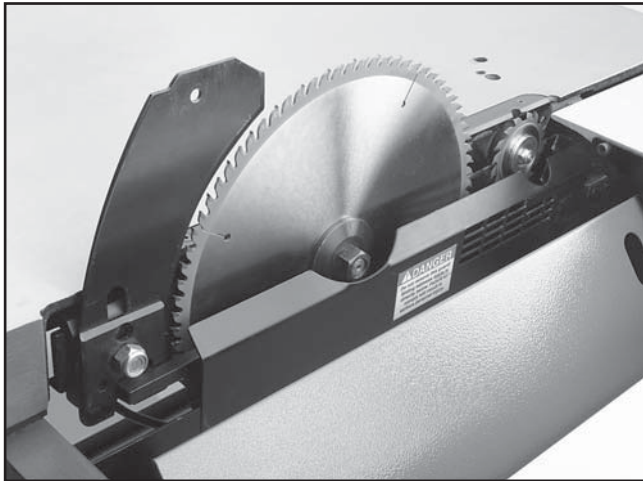

Figure 48. Internal blade guard exposed.
3. Slide the table all the way forward to access the blade arbor, loosen the cap screw securing the lower blade guard, slide the cap screw up, and pull open the lower blade guard shown in **Figure 48**.